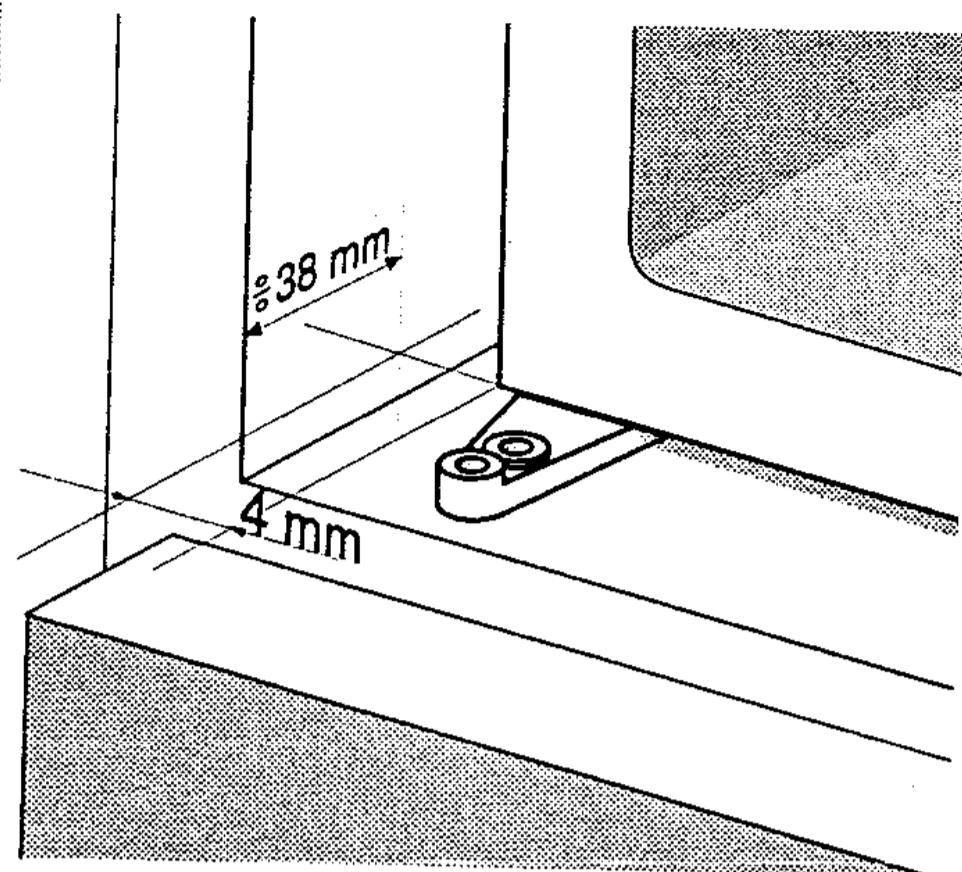

Fig. 1
- ❖ Push the appliance 38 mm into the kitchen unit and allow at least 4 mm free space on both sides between the appliance and the side walls of the kitchen unit (Fig. 1).